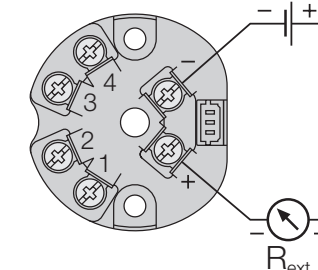

Fig. 7
Connect the measuring output leads (analogue output and power supply) to terminals ① and ④ acc. to Fig. 7.